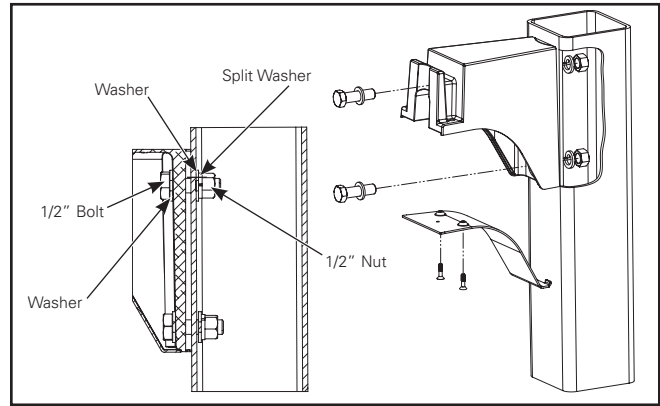

Figure 2.
2. Mount the arm to the round or square pole using the provided 1/2" x 1-3/4" long bolts, washers and nuts as shown in (Figure 2). Torque bolts to 40 ft-lbs. (55 N-M).